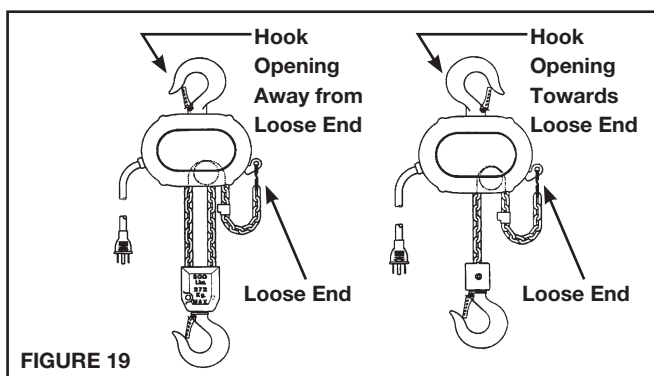

FIGURE 19
10. Properly install the upper hook as shown in Figure 19 & 20, then slide the hook retainer (142) into the cavity on top of the hoist and secure it using hook retainer screw (143). Tighten screw to a seating torque of 10 in-lbs (1.1 N-m).